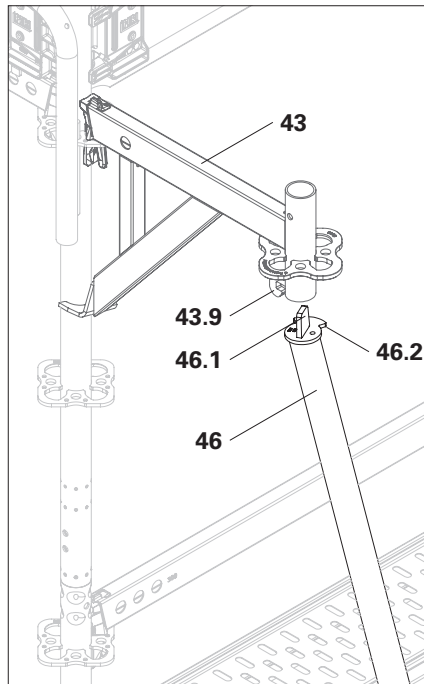

Fig. A6.12a
1. Install Console Brackets UCM (43).
3. Insert bracket brace (46) with centring lug (46.1) from below into the console bracket tube. When doing so, bring the console bracket brace up to the console bracket tube at an angle of approx. 45°. (Fig. A6.12a + A6.12b)